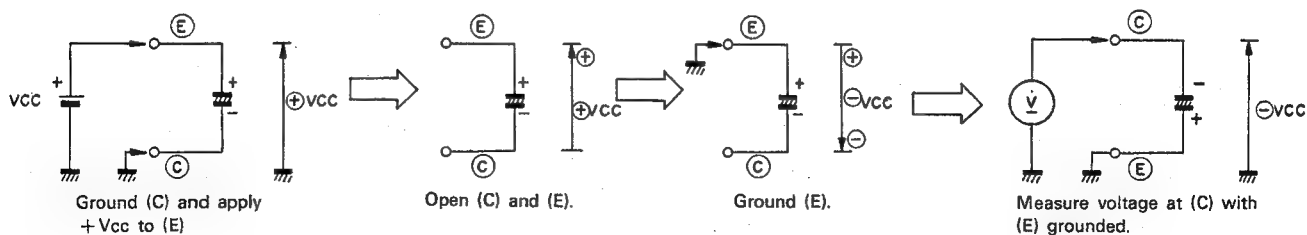

Fig. 5 Operation of C61 and C62
Since Q22 turns on, the voltage at (E) is lowered to about 2V by the voltage drop across R84. Since the potential difference between (C) and (E) is VCC, the voltage at (C) is  $(2 - V_{CC}) \div -V_{CC}$ . (Refer to Fig. 5.)